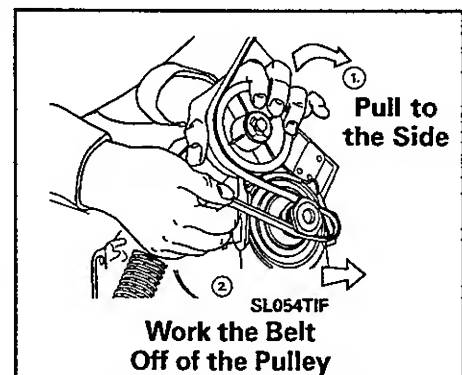

Figure 10-8
5. Grasp the idler pulley in left hand, pull idler upward and to the left. **Note:** *There is a built-in stop to prevent overstressing of the idler arm spring.* Slip belt off the motor pulley (Figure 10-8).